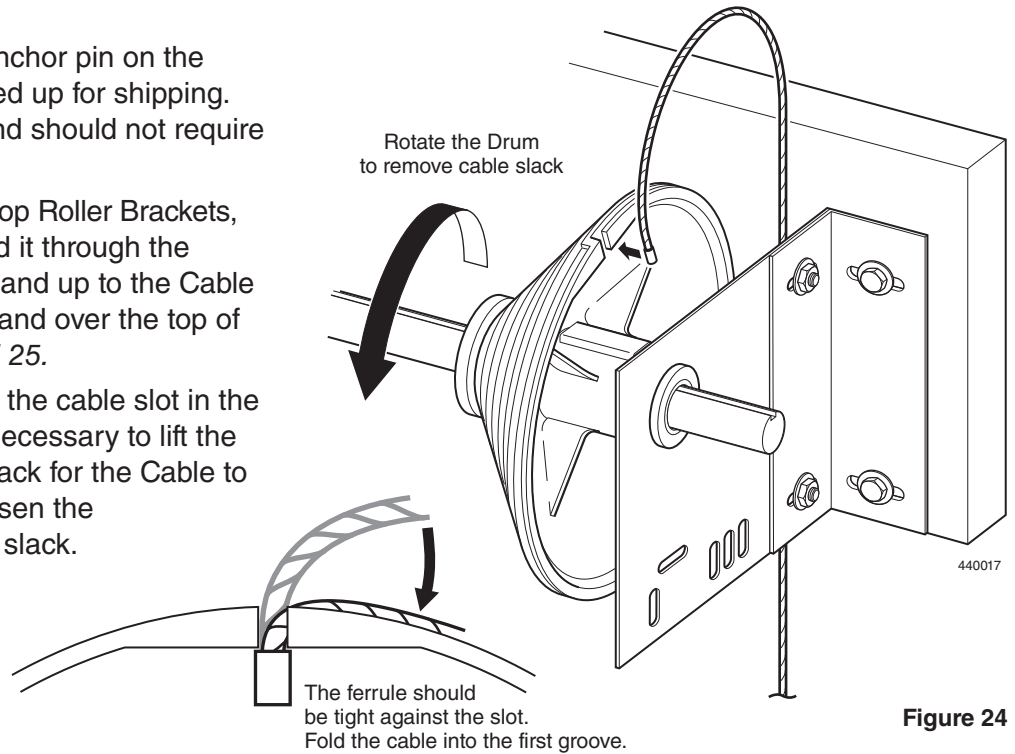

Figure 24
1. Beginning at one of the Anti-Drop Roller Brackets, uncoil the Lift Cable and thread it through the Cable Arm, behind the rollers, and up to the Cable Drum. Feed the Cable behind and over the top of the Drum. See *Figures 24 and 25*.
2. Slide the end of the Cable into the cable slot in the Drum. See *Fig. 24*. It may be necessary to lift the door slightly to get sufficient slack for the Cable to fit over the Drum. DO NOT loosen the Drum from the shaft to get the slack. Be sure the cable ferrule is secure against the bottom of the cable slot and the cable aligns with the first groove in the Drum.